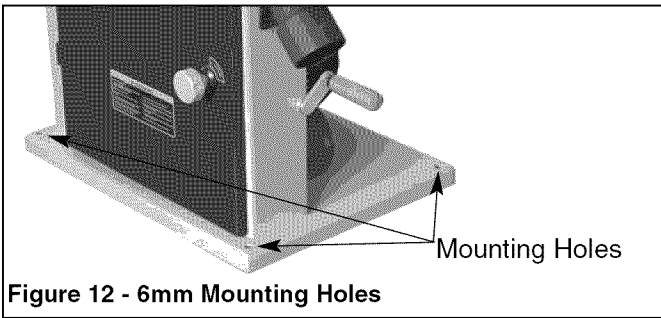

Figure 12 - 6mm Mounting Holes
- To ensure sufficient upright stability of the machine it should be bolted to the stand (See the previous instruction how to place the machine on to the stand). For this purpose 6mm mounting holes are provided in the machine's base (see Figure 12).